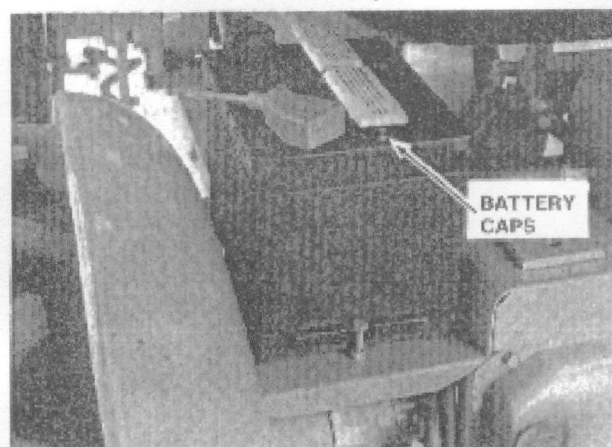

Figure 13. Battery and Cables
1. Check the electrolyte level of the battery by removing the filler caps (fig. 13).